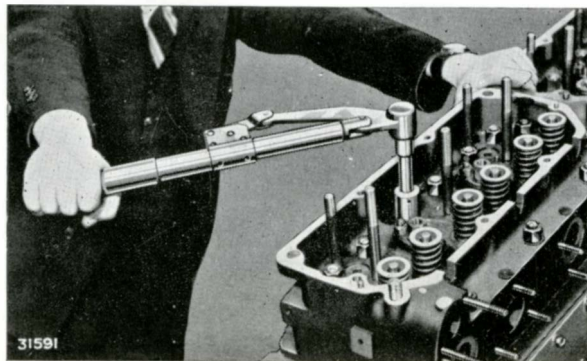
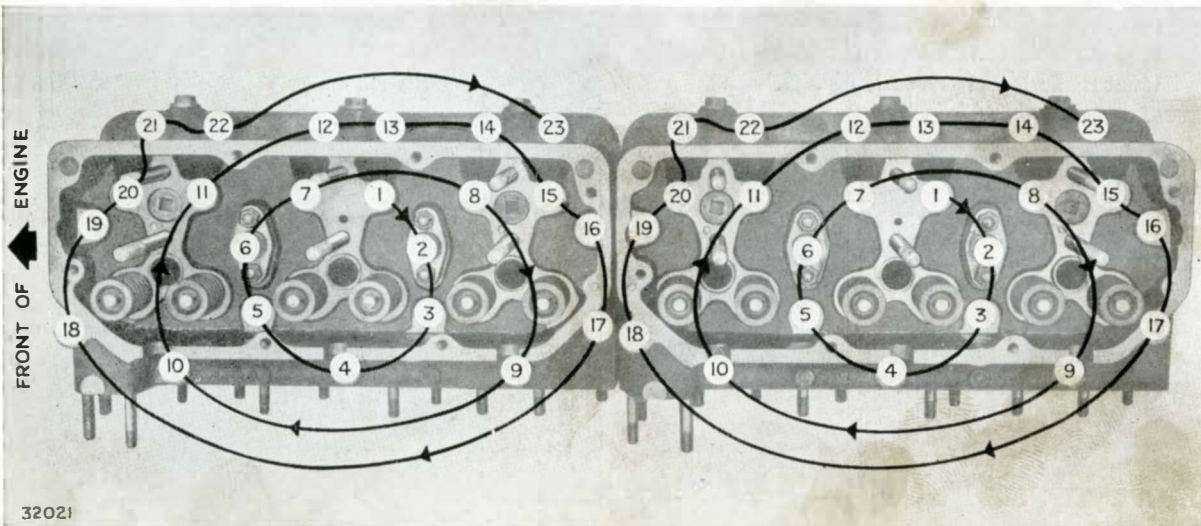

FIG. 20. TIGHTENING CYLINDER HEAD NUTS USING A TORSION SPANNER
FIG. 28. CORRECT SEQUENCE OF TIGHTENING CYLINDER HEAD NUTS
10. To ensure freedom from distortion and gasket leaks, the cylinder head nuts must be tightened down evenly in a definite order, starting at the centre and working outwards, as shown in Fig. 28. First tighten down with a short spanner, then with a torsion spanner set at 150 to 160 lb./ft. (20.7 to 22 kg/m.), see Fig. 20.